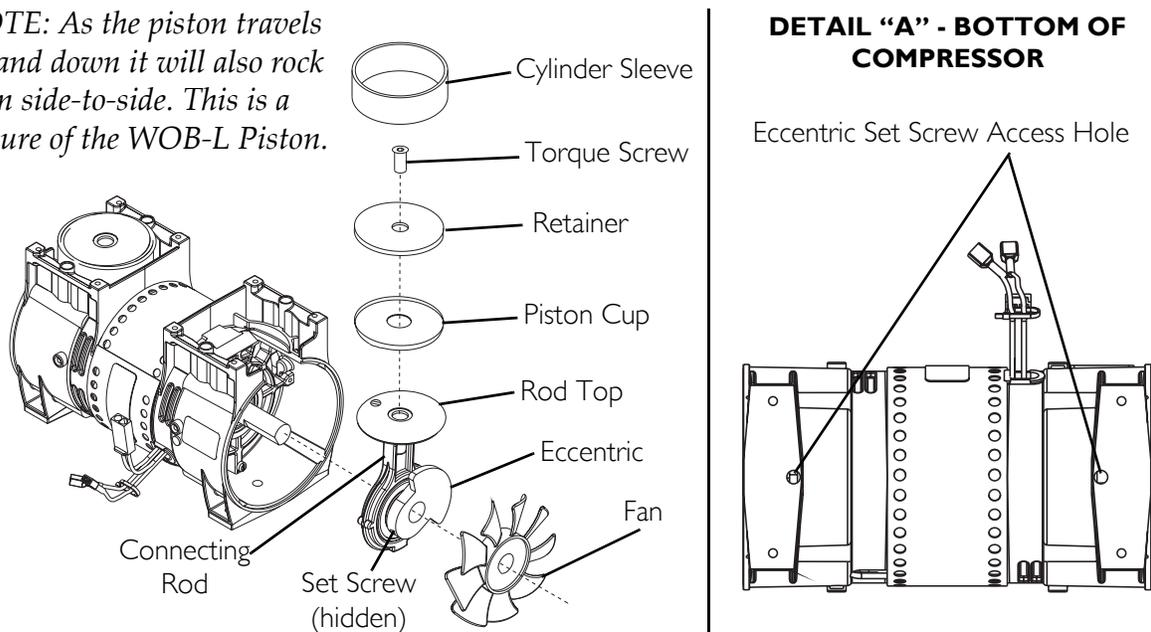

FIGURE 7.6 Removing Compressor and Compressor Heads - Rebuilding the Compressor - Fan - Connecting Rod and Eccentric Assembly - Piston Cup
NOTE: For this procedure, refer to FIGURE 7.6 on page 44.
NOTE: For this procedure, refer to FIGURE 7.6.
2. Insert the 1/8-inch Allen wrench into the access hole in the bottom of the compressor housing (Detail "A" of FIGURE 7.6).
4. Using the access hole, tighten set screw to 4.2 N-M (40 inch-lbs) (Detail "A" of FIGURE 7.6).